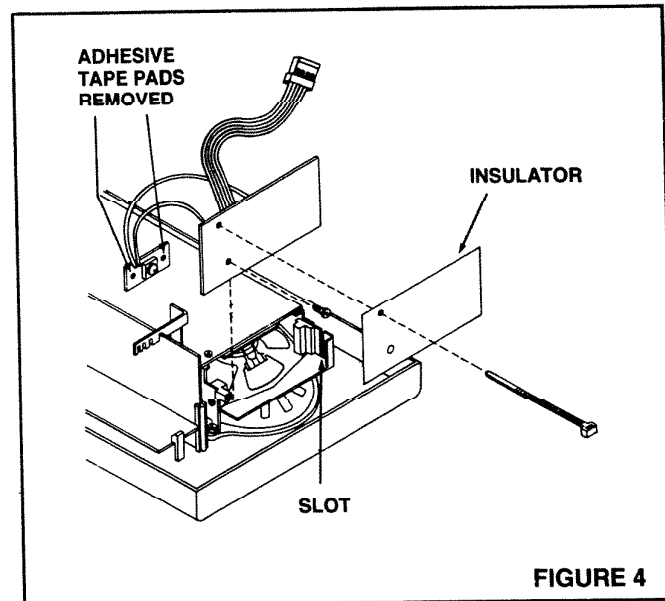

FIGURE 4
1. Refer to Figure 4. Place Chime Module into slot on master unit. **CAUTION: BE SURE SPEAKER TERMINALS DO NOT TOUCH CHIME MODULE.**
2. Refer to Figure 4. Attach module by inserting one of two screws provided into mounting hole in Chime Module.
3. Refer to Figure 4. Place insulator on back of Chime Module and secure with wire tie.